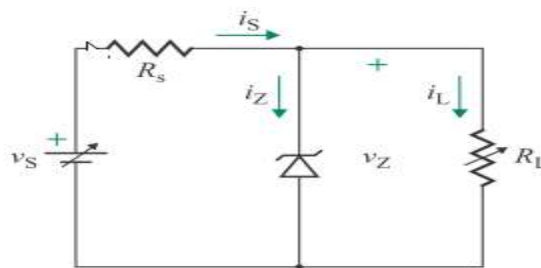

Figure 8
13. Design of a zener regulator, the parameters of a 6.3-V zener diode for the voltage regulator circuit of figure 8 are $V_Z = 6.3 \text{ V}$ at $I_Z = 40 \text{ mA}$ and $Z_Z = 2 \Omega$. The supply voltage $v_S = V_S$ can vary between 12 V and 18 V . The minimum load current is 0 mA . The minimum zener diode current I_{Zk} is 1 mA . The power dissipation P_D of the zener diode must not exceed 750 mW at 25°C .